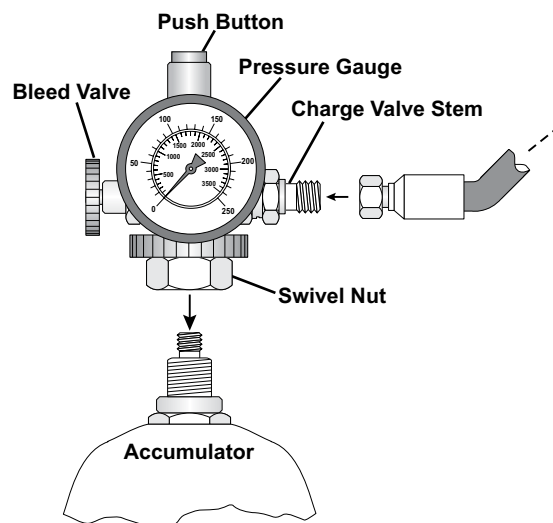

Figure 34
5. On the charge valve assembly (Figure 34), close the bleed valve (turn it clockwise all the way in). If a hose is connected to the charge valve stem, disconnect the hose from the charge valve stem. This step closes the charge valve stem to prevent the gas pressure from escaping out of the hose. It ensures that the initial pressure reading is accurate.
6. Find the swivel nut on the charge valve assembly (Figure 34). Screw the swivel nut onto the accumulator gas valve. Tighten to 10–15 in./lb.
7. After the swivel nut is attached, depress the push button on the top of the charge valve assembly (Figure 34). This presses a pin into the accumulator gas valve and opens it. Read the pressure on the charge valve assembly pressure gauge. The pressure should read 103 bar (1500 PSI).